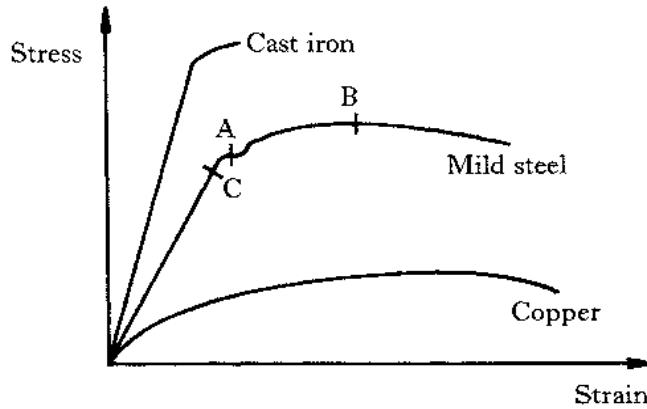

Figure Q1
1. The stress/strain graphs for specimens of three common engineering materials, all of which have been tested to destruction, are shown in Figure Q1. Each specimen was of identical shape and size.